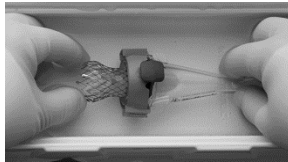

Figure 30
4. Insert the inflow portion of the bioprosthesis frame into the inflow cone. Ensure that the bioprosthesis frame paddle marked with a “C” is facing up and that the paddles are aligned with the paddle attachment pockets (Figure 30).